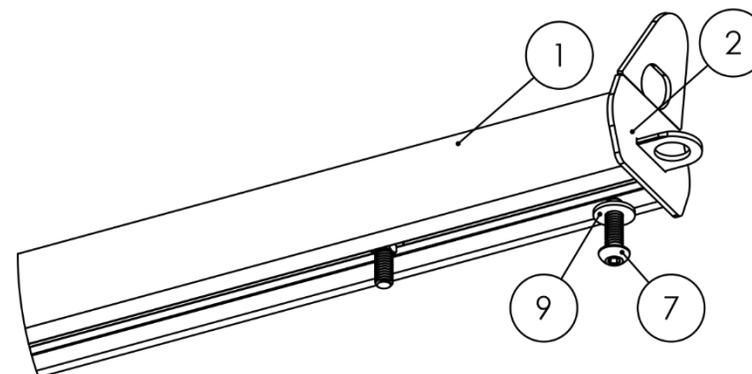

Figure 11
5. **Install the End Caps to the Crossbars.** Slide (4) End Caps (Item No. 2) into each end of a Crossbar (Item No. 1). Once inserted, match the Crossbar's pre-drilled hole with the End Cap's threaded hole. As shown in Figure 11, secure each End Cap by threading a 1.25" Button Head Cap Screw (Item No. 7) and a Metal Washer (Item No. 9) into the concentric holes.